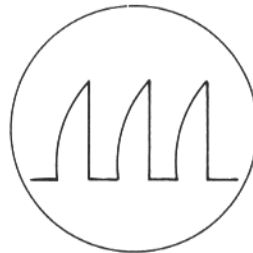

FIG 27
-fig 27 - Other phenomenes due to constants of circuits.